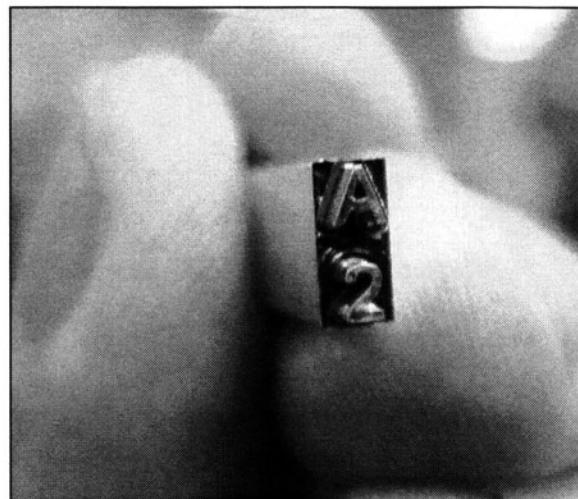

FIGURE 13-2 This copper EDM electrode was made in a CNC milling machine.
6. *Get the lettering correct in your mold cavities. (See Fig. 13-2)*